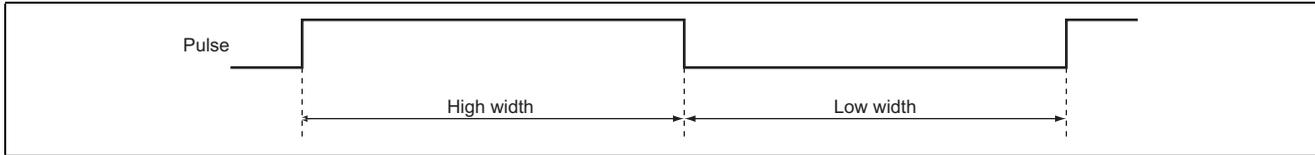

Figure 1 Timing of the Measurement of Pulse Width
- (1) Measures the low and high periods of a pulse and stores the results in the on-chip RAM, as shown in figure 1.
- (2) In operation at 20 MHz, the measurement of pulses with high and low widths is possible for every 50 ns between 1.9 μ s and 3.27 ms.